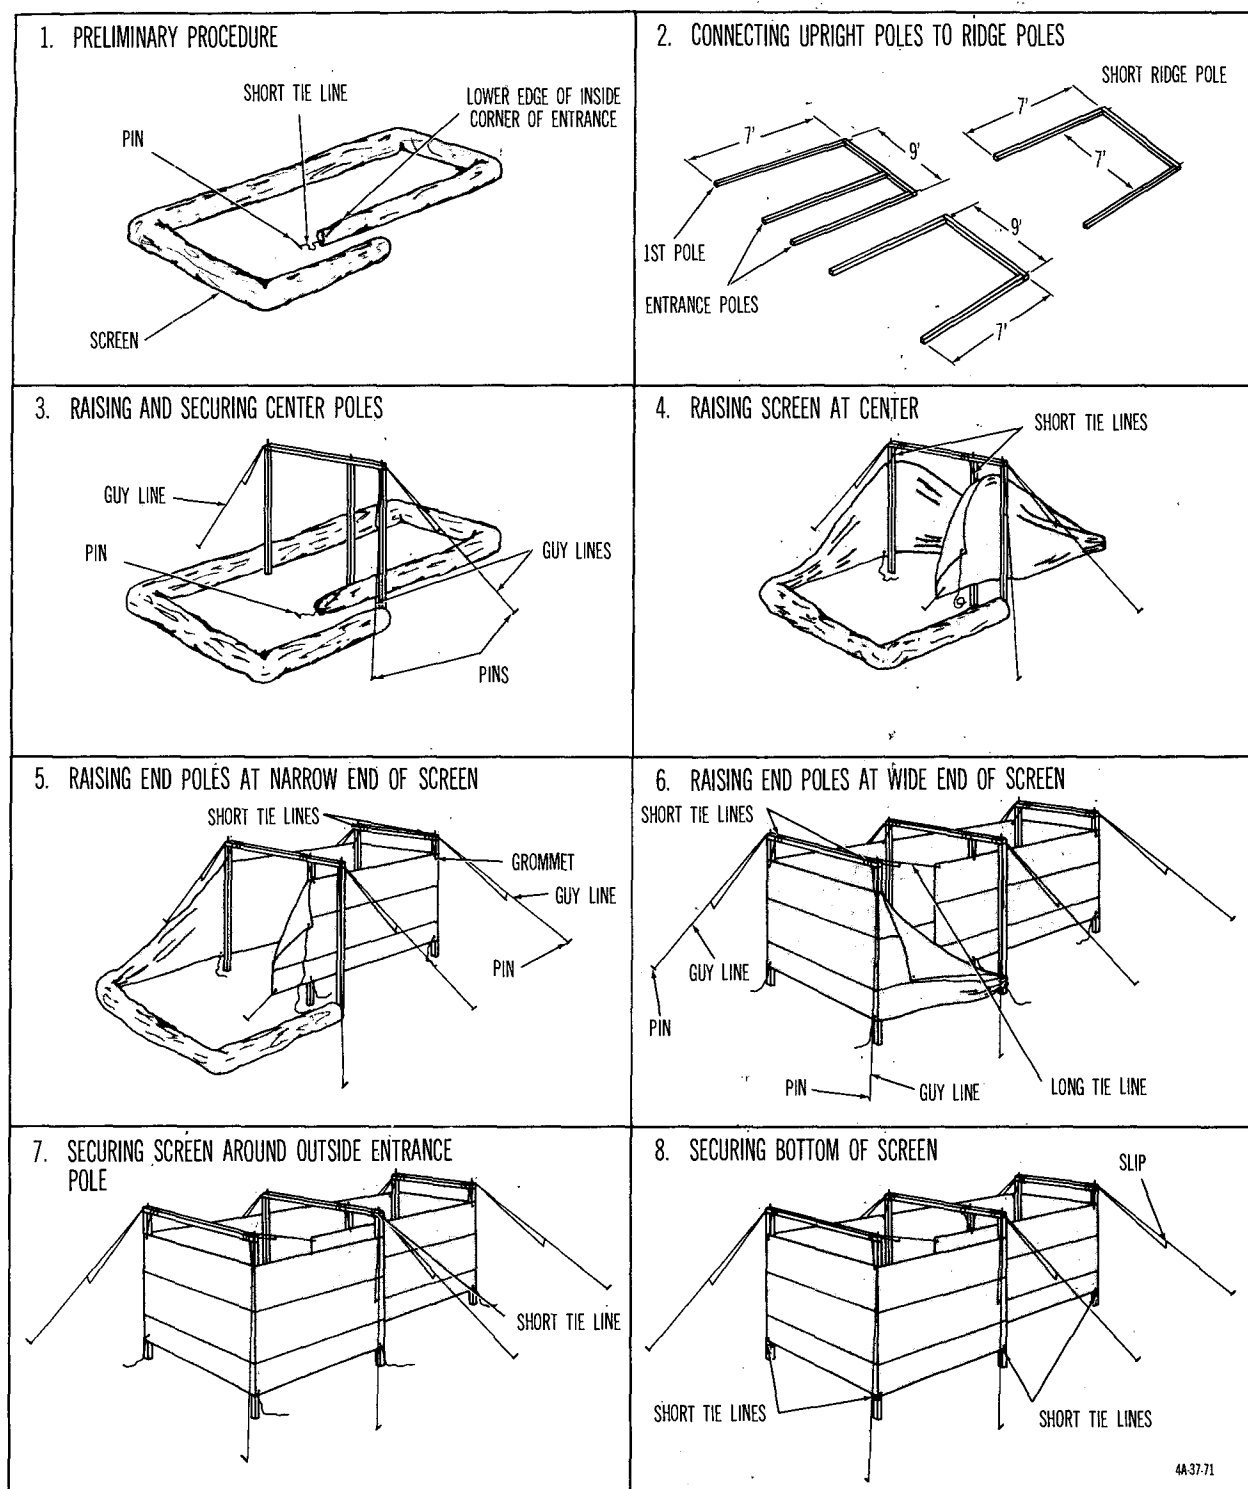

Figure 98. Steps in pitching screen, latrine.
(1) *Preliminary procedure* (1, fig 98).
(2) *Connecting upright poles to ridge poles* (2, fig 98).
(3) *Raising and securing center poles in position inside screen* (3, fig 98). Raise the three center upright poles connected to the 9-foot ridge pole to a vertical position on inside of screen near center. Hold upright poles in position and drive in two center guy line pins 6 feet from outside door upright pole, according to ground plan. Drive a third guy line pin 6 feet from upright pole on opposite side of screen and in line with the three upright poles. Place guy lines over these pins and over spindles of upright poles.
(4) *Raising screen at center* (4, fig 98). Raise screen at center and tie short tielines to center ridge pole so that screen is 6 inches off ground at bottom.
(5) *Raising end poles at narrow end of screen* (5, fig 98).
(6) *Raising end poles at wide end of screen* (6, fig 98).
(7) *Securing screen around outside entrance pole* (7, fig 98). Place end of screen
(8) *Securing bottom of screen* (8, fig 98). Tie all short tie lines at lower edge of screen to upright poles. Adjust and tighten all guy lines.